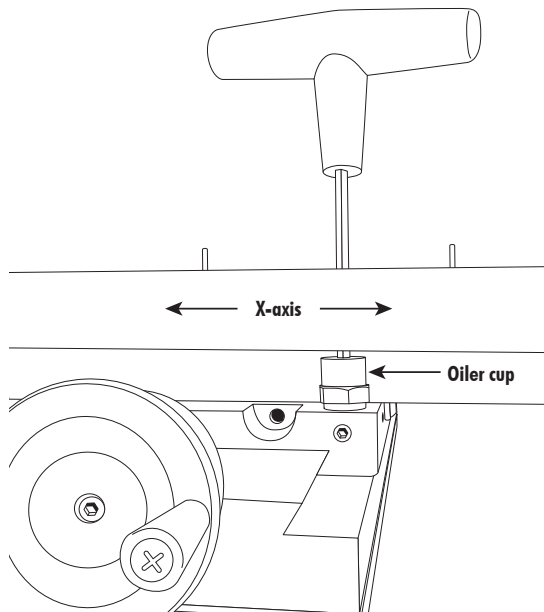

Figure 3—Aligning the access hole with the oiler cup.
2. Move the X-axis until the access hole lines up with the oiler (See Figure 3).